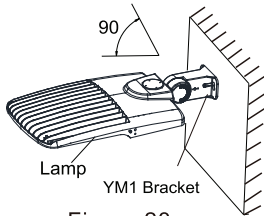

Figure 23
Step 3: Connect the fixture to the bracket and tighten the screws; connect the wires properly and put them into junction box. (Figure 23)
Notice: Adjustable angle is 0-90°(Figure 23)